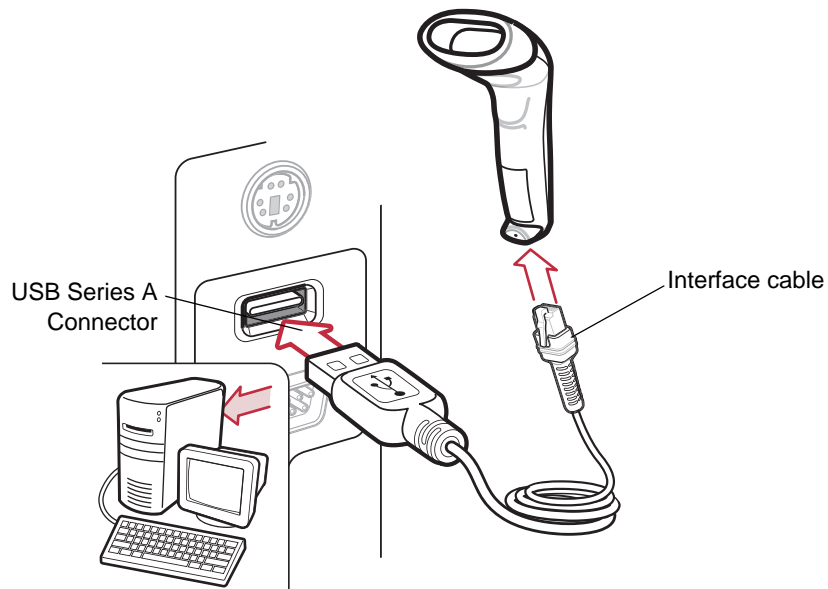

Figure 7-1 USB Connection
- ✓ **NOTE** Interface cables vary depending on configuration. The connectors illustrated in Figure 7-1 are examples only. The connectors may be different than those illustrated, but the steps to connect the scanner remain the same.